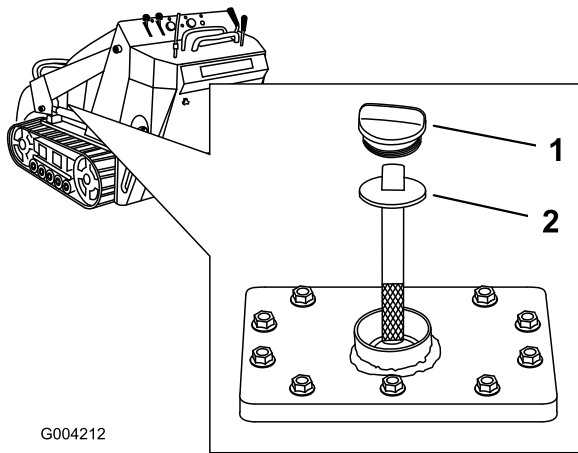

Figure 54
5. Remove the hydraulic tank cap and dipstick (Figure 54).